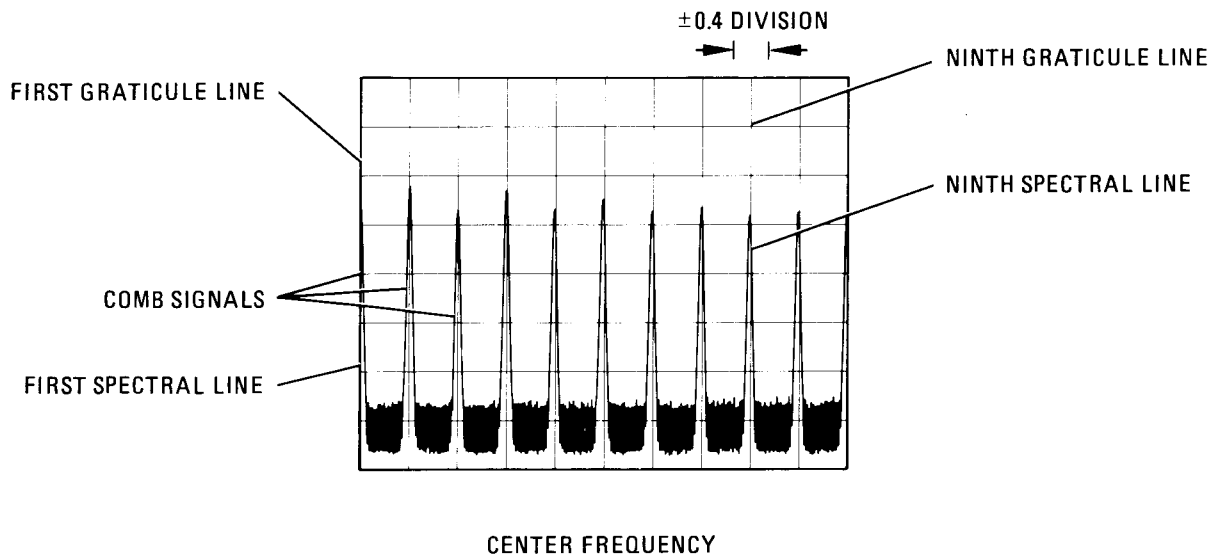

FIGURE 4-3. FREQUENCY SPAN ACCURACY MEASUREMENT FOR NINTH SPECTRAL LINE
- Set comb generator **COMB FREQUENCY** – MHz for 10-MHz comb. Set spectrum analyzer **FREQ SPAN/DIV** to 20 MHz. Adjust **TUNING** control to position one spectral line on the first graticule line. Measure the error between 17th spectral line and ninth graticule line as shown in Figure 4-3. Error should be no greater than ± 0.4 division.